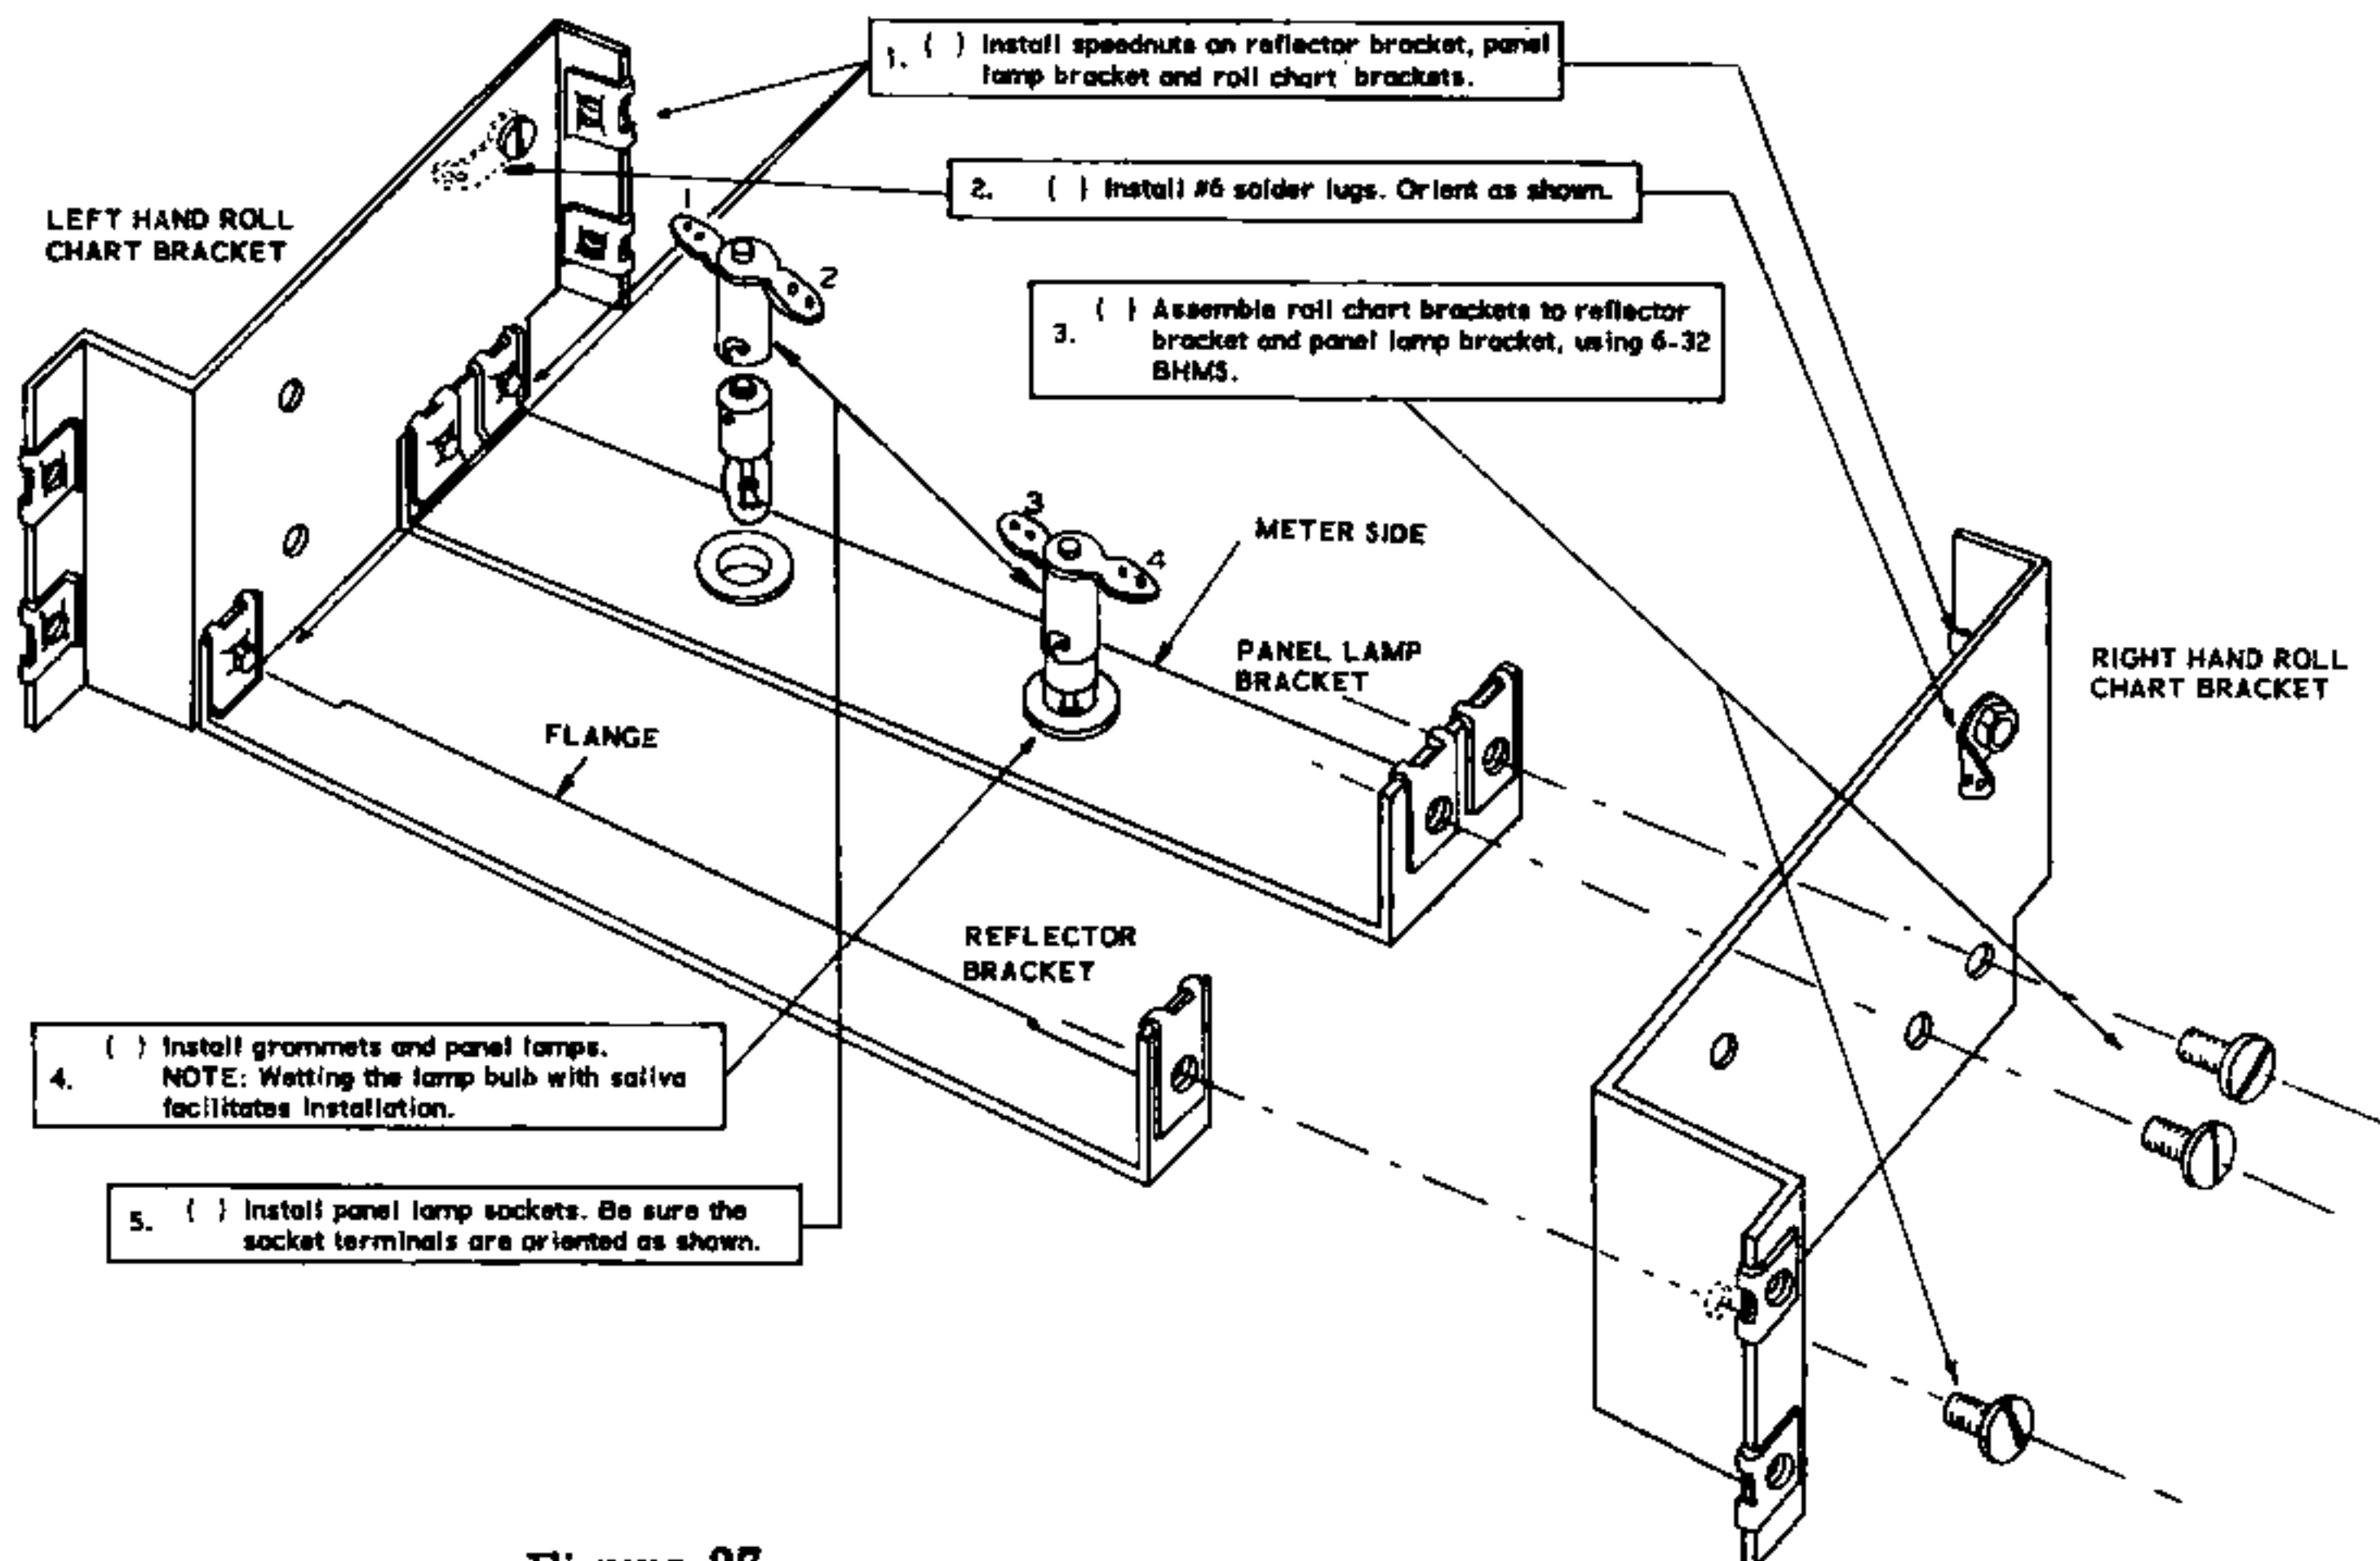

Figure 27
- ( ) Assemble the roll chart brackets, as shown in Figure 27. Note that the two panel lamp holes in the panel lamp mounting bracket are not centered in the bracket. Position the bracket in such a way that the panel lamps are closest to the meter. When installing the speednuts, be sure the nut is pushed all the way onto the flange. When correctly positioned, the speednut will drop into place with a "snap".